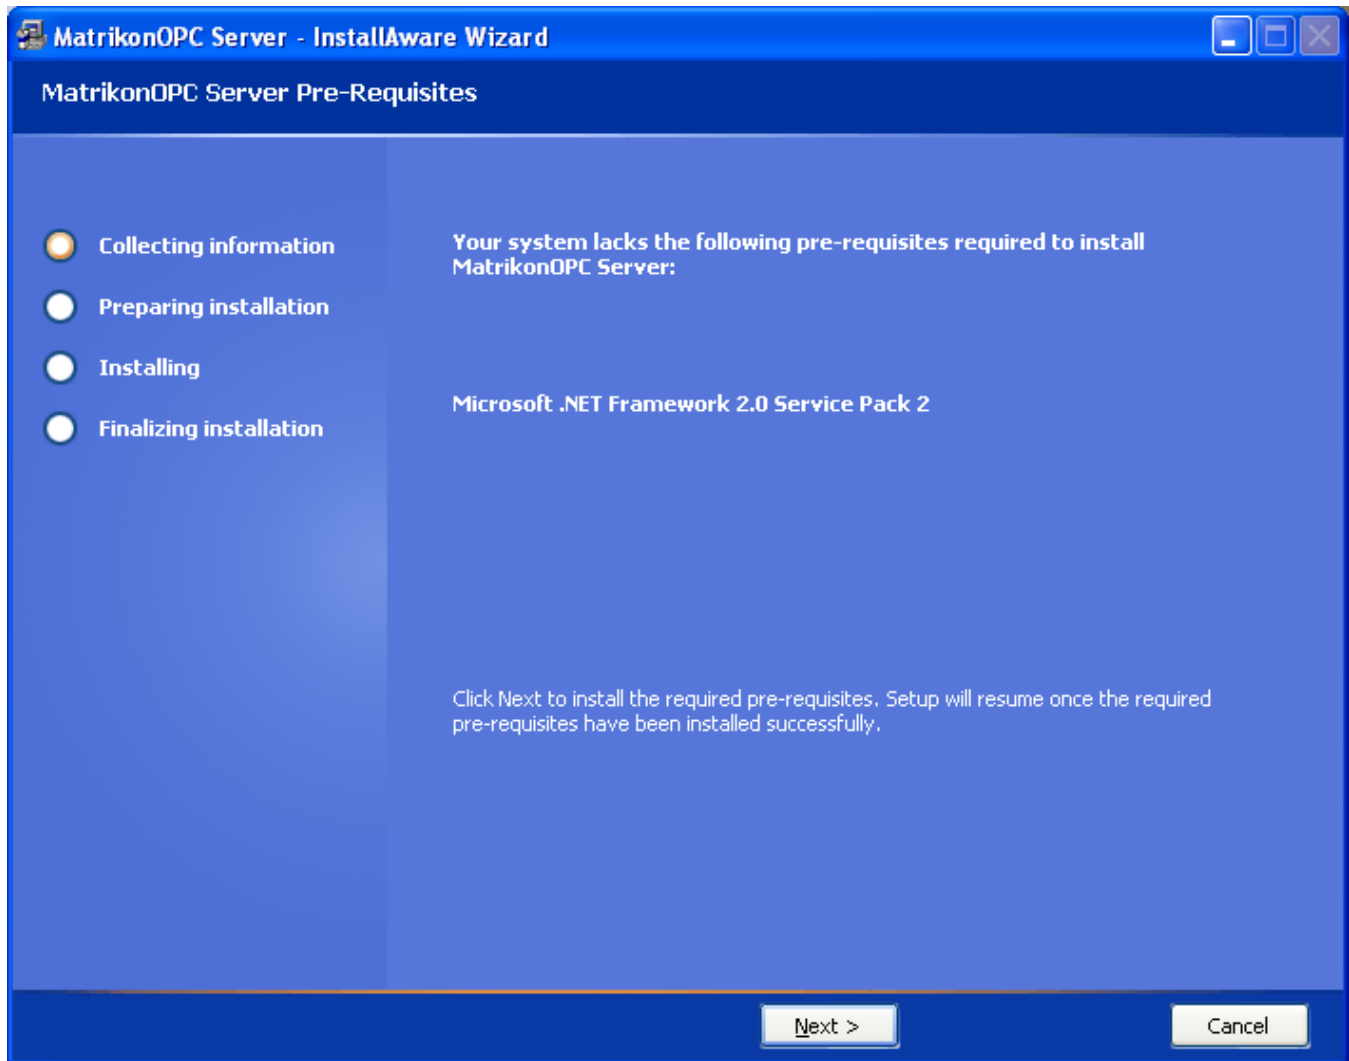
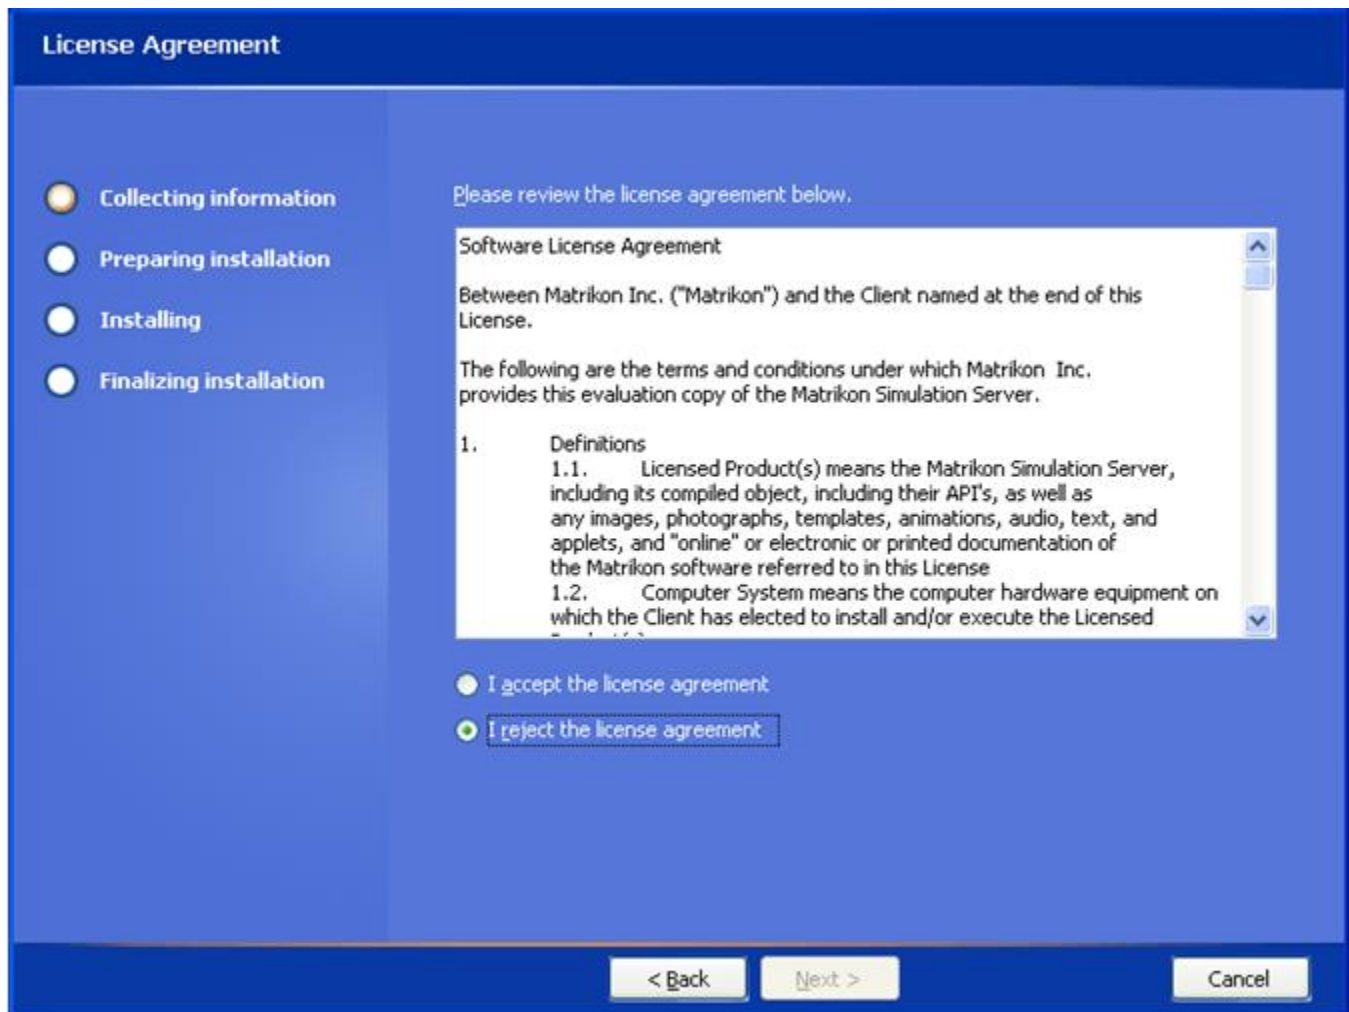

Figure 59 - Pre-Requisites Screen
Figure 60 - License Agreement Screen
3. Either a **Pre-Requisites** screen (Figure 59) appears, or you are taken directly to the **Licensing Agreement** (Figure 60) screen. If the **Licensing Agreement** screen is the displayed screen, go to step 5.
5. After all pre-requisites have been installed, the **License Agreement** screen (Figure 60) appears.